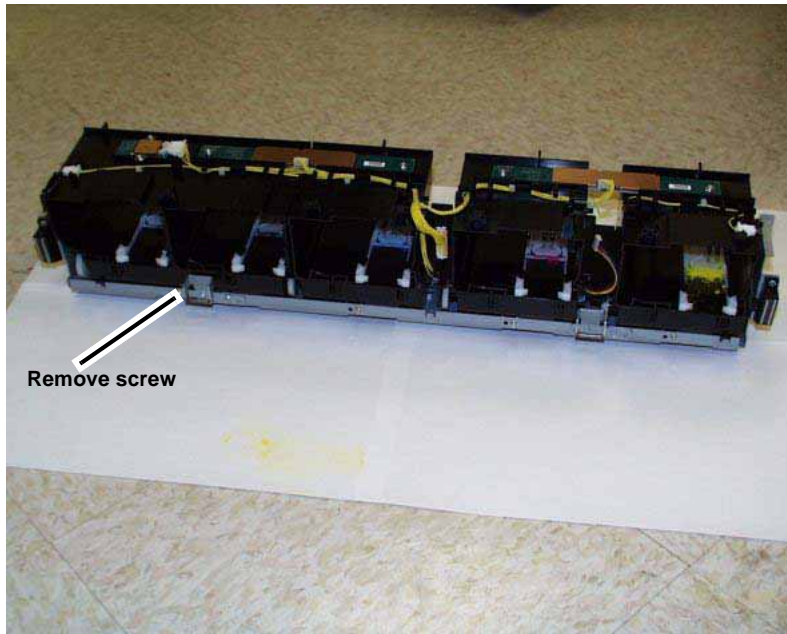

Figure 1 Removing screw
2. Remove screw on the front of the Dispenser Assembly (Figure 1).